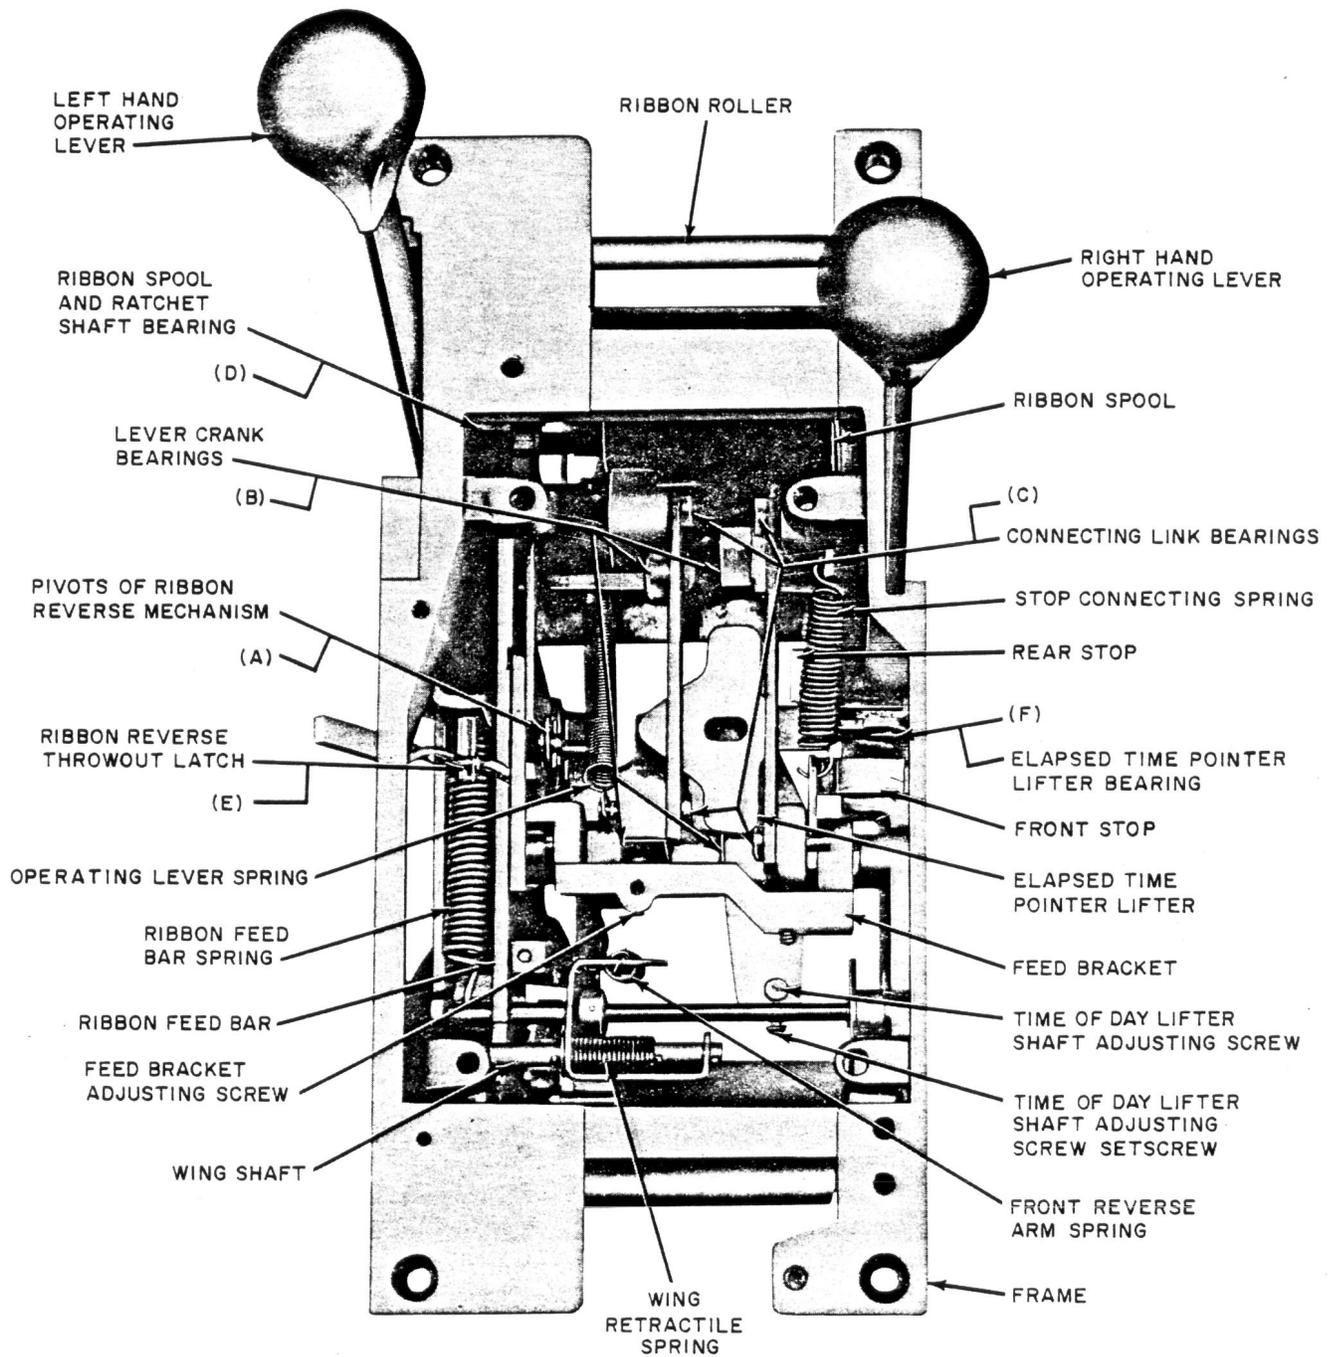

Fig. 2—Lever Cranks, Connecting Links, and Associated Parts (KS-7769 L11 Calculagraph Illustrated)
Ribbon Wind Pawl and Pivots of Ribbon Reverse Mechanism—Fig. 2(A) and 4(A)
Lever Crank—Bearings—Fig. 2(B) and 4(B)
Connecting Link—Bearings—Fig. 2(C)
Ribbon Spool and Ratchet Shaft—Bearings—Fig. 2(D)
Ribbon Reverse Throwout Latch Bearing—Fig. 2(E)
Elapsed-Time Pointer Lifter—Bearing—Fig. 2(F)